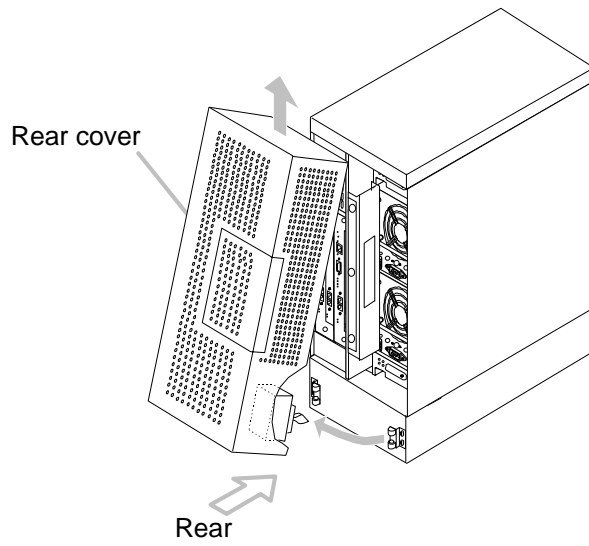

Figure 4.21 Remove the Rear Cover
1. Remove the rear cover. (see figure 4.21)